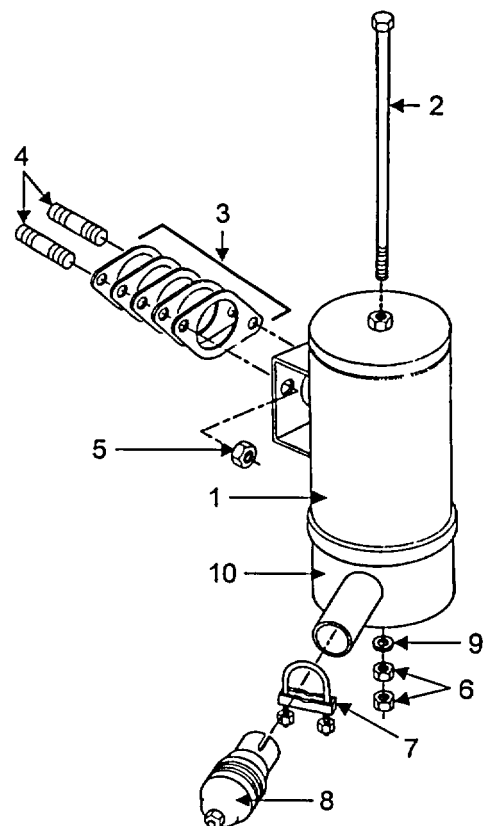

FIGURE 3-15. ENGINE EXHAUST MUFFLER AND SPARK ARRESTER
a. Remove two hex nuts (Figure 3-15, Item 6), and washer (9) and remove the long bolt (2). Remove the bottom cup (10).
b. Remove u-bolt (7) and spark arrester (8).
c. Remove hex nut (11) and disassemble spark arrester.
d. Using a stiff brush, clean soot, carbon, and dirt from the cup, each spark arrester plate, and from the inside of muffler (1) and bottom cup (10).